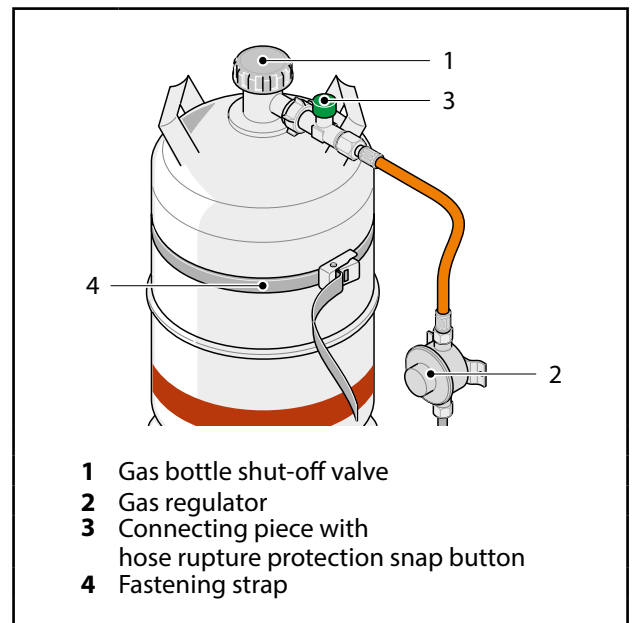

Fig. 50 Changing a gas cylinder
1. Close the gas bottle shut-off valve (Fig. 50, item 1).
2. Unscrew the connecting piece with the hose rupture protection snap button (Fig. 50, item 3) from the gas bottle by hand (caution: left-hand thread).
3. Undo fastening strap (Fig. 50, item 4) and take the empty gas bottle out of the gas locker.
6. Place the full gas bottle in the mounting in the gas locker and secure it with the fastening strap (Fig. 50, item 4).
7. Screw on the connecting piece with hose rupture protection push button (Fig. 50, item 3) by hand (caution: left-hand thread).
8. Open the gas bottle shut-off valve (Fig. 50, item 1).
9. Firmly press in the green hose rupture protection push button (Fig. 50, item 3).